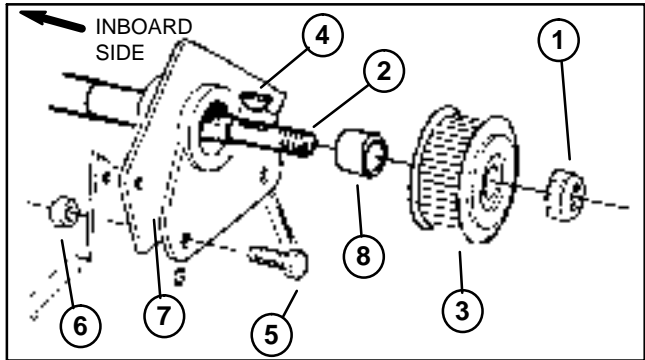

Figure 19
2. Remove nut from the differential axle. Remove pulley and woodruff key from the axle (Fig. 19).
3. Remove cap screw and lock nut from the housing and frame. Slide housing off of the differential axle (Fig. 19).
### Installation (Fig. 19)